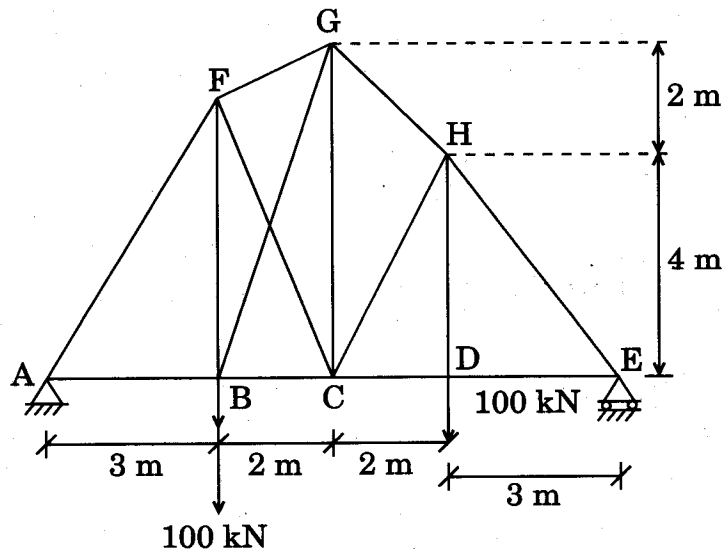

Figure 6
- (c) Determine the forces in the members of the truss shown in Figure 6. All members have same axial rigidity.